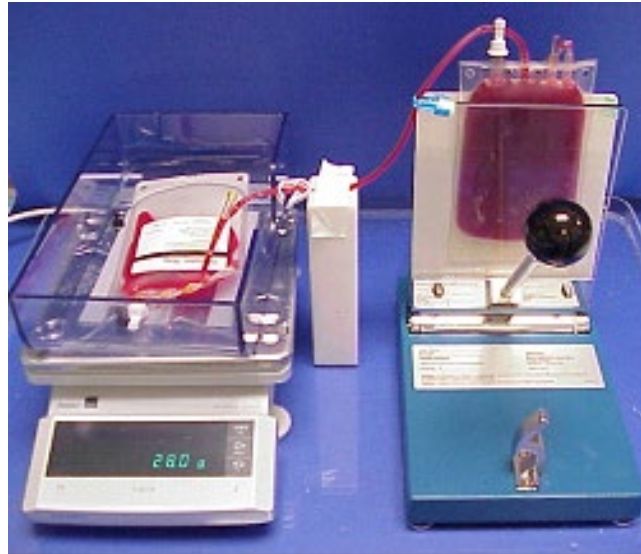

Figure 12
- b. Place the centrifuged infusion bag in the plasma expessor. Place the transfer bag on the scale (see Figure 12).